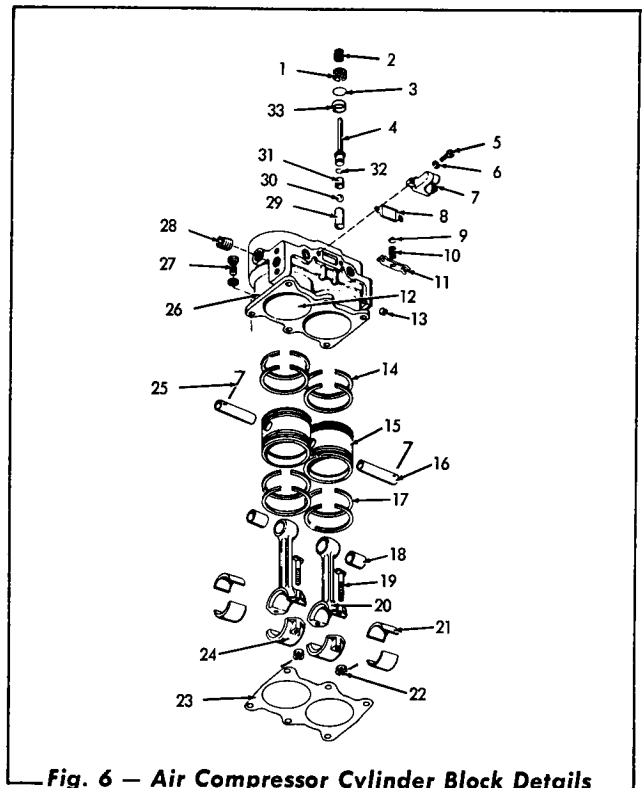

Fig. 6 – Air Compressor Cylinder Block Details
4. Remove the inlet valve springs and inlet valves from their respective counterbores in the top of the cylinder block (Fig. 6).
6. Remove the unloader spring saddle, the unloader plunger, the unloader pistons, and the unloader piston grommets (Figs. 6 and 7).
7. Remove the cotter pins, the nuts, and the bearing caps from each connecting rod (Fig. 6). Push each piston and connecting rod assembly out through the top of the
3. Inspect the unloader pistons and the piston grommet for wear (Fig. 6). Replace any scored unloader pistons. The grommet or seal ring in the unloader piston should be replaced. Be careful in reinstalling the unloader piston in the bore so that the grommet is not damaged or cut.